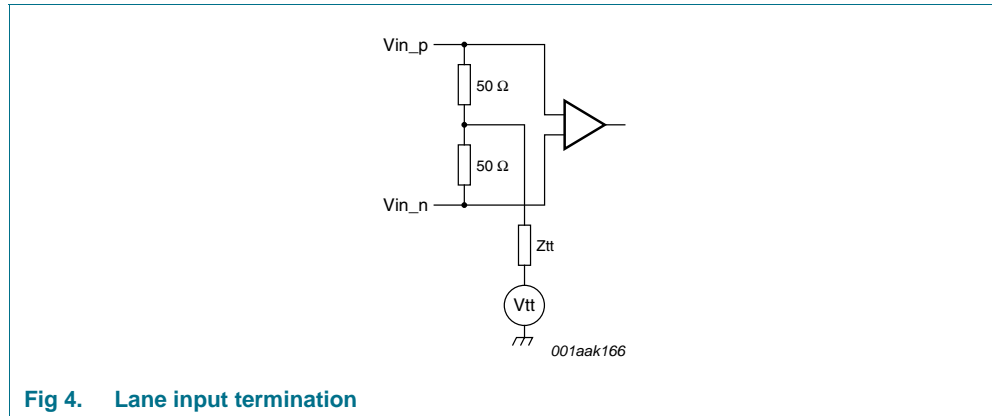

Fig 4. Lane input termination
- [4] Vin_p and Vin_n inputs are differential CML inputs. There are terminated internally to V_{tt} via 50 Ω (see Figure 4).